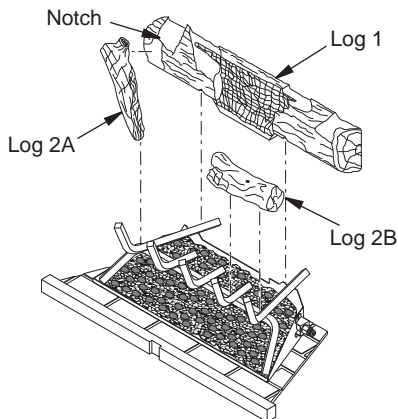

Figure 29 - Installing Logs 1, 2A and 2B
1. Place large back log (log 1) onto grate making sure notches rest over grate (see Figure 29).
2. Insert lower end of log 2A between first two grate fingers and position upper end into notch on front of log 1. See Figure 29. Place log 2B on front right side of grate as shown in Figure 29.